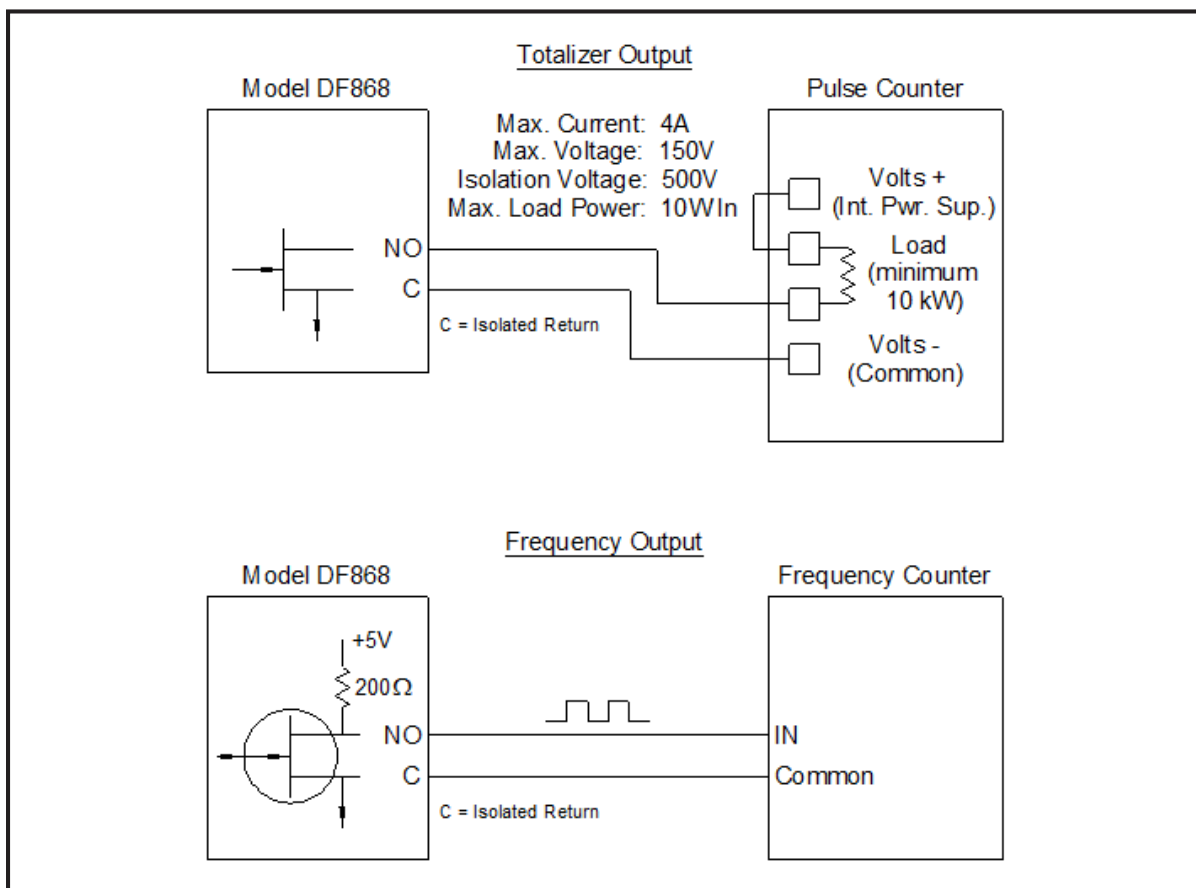
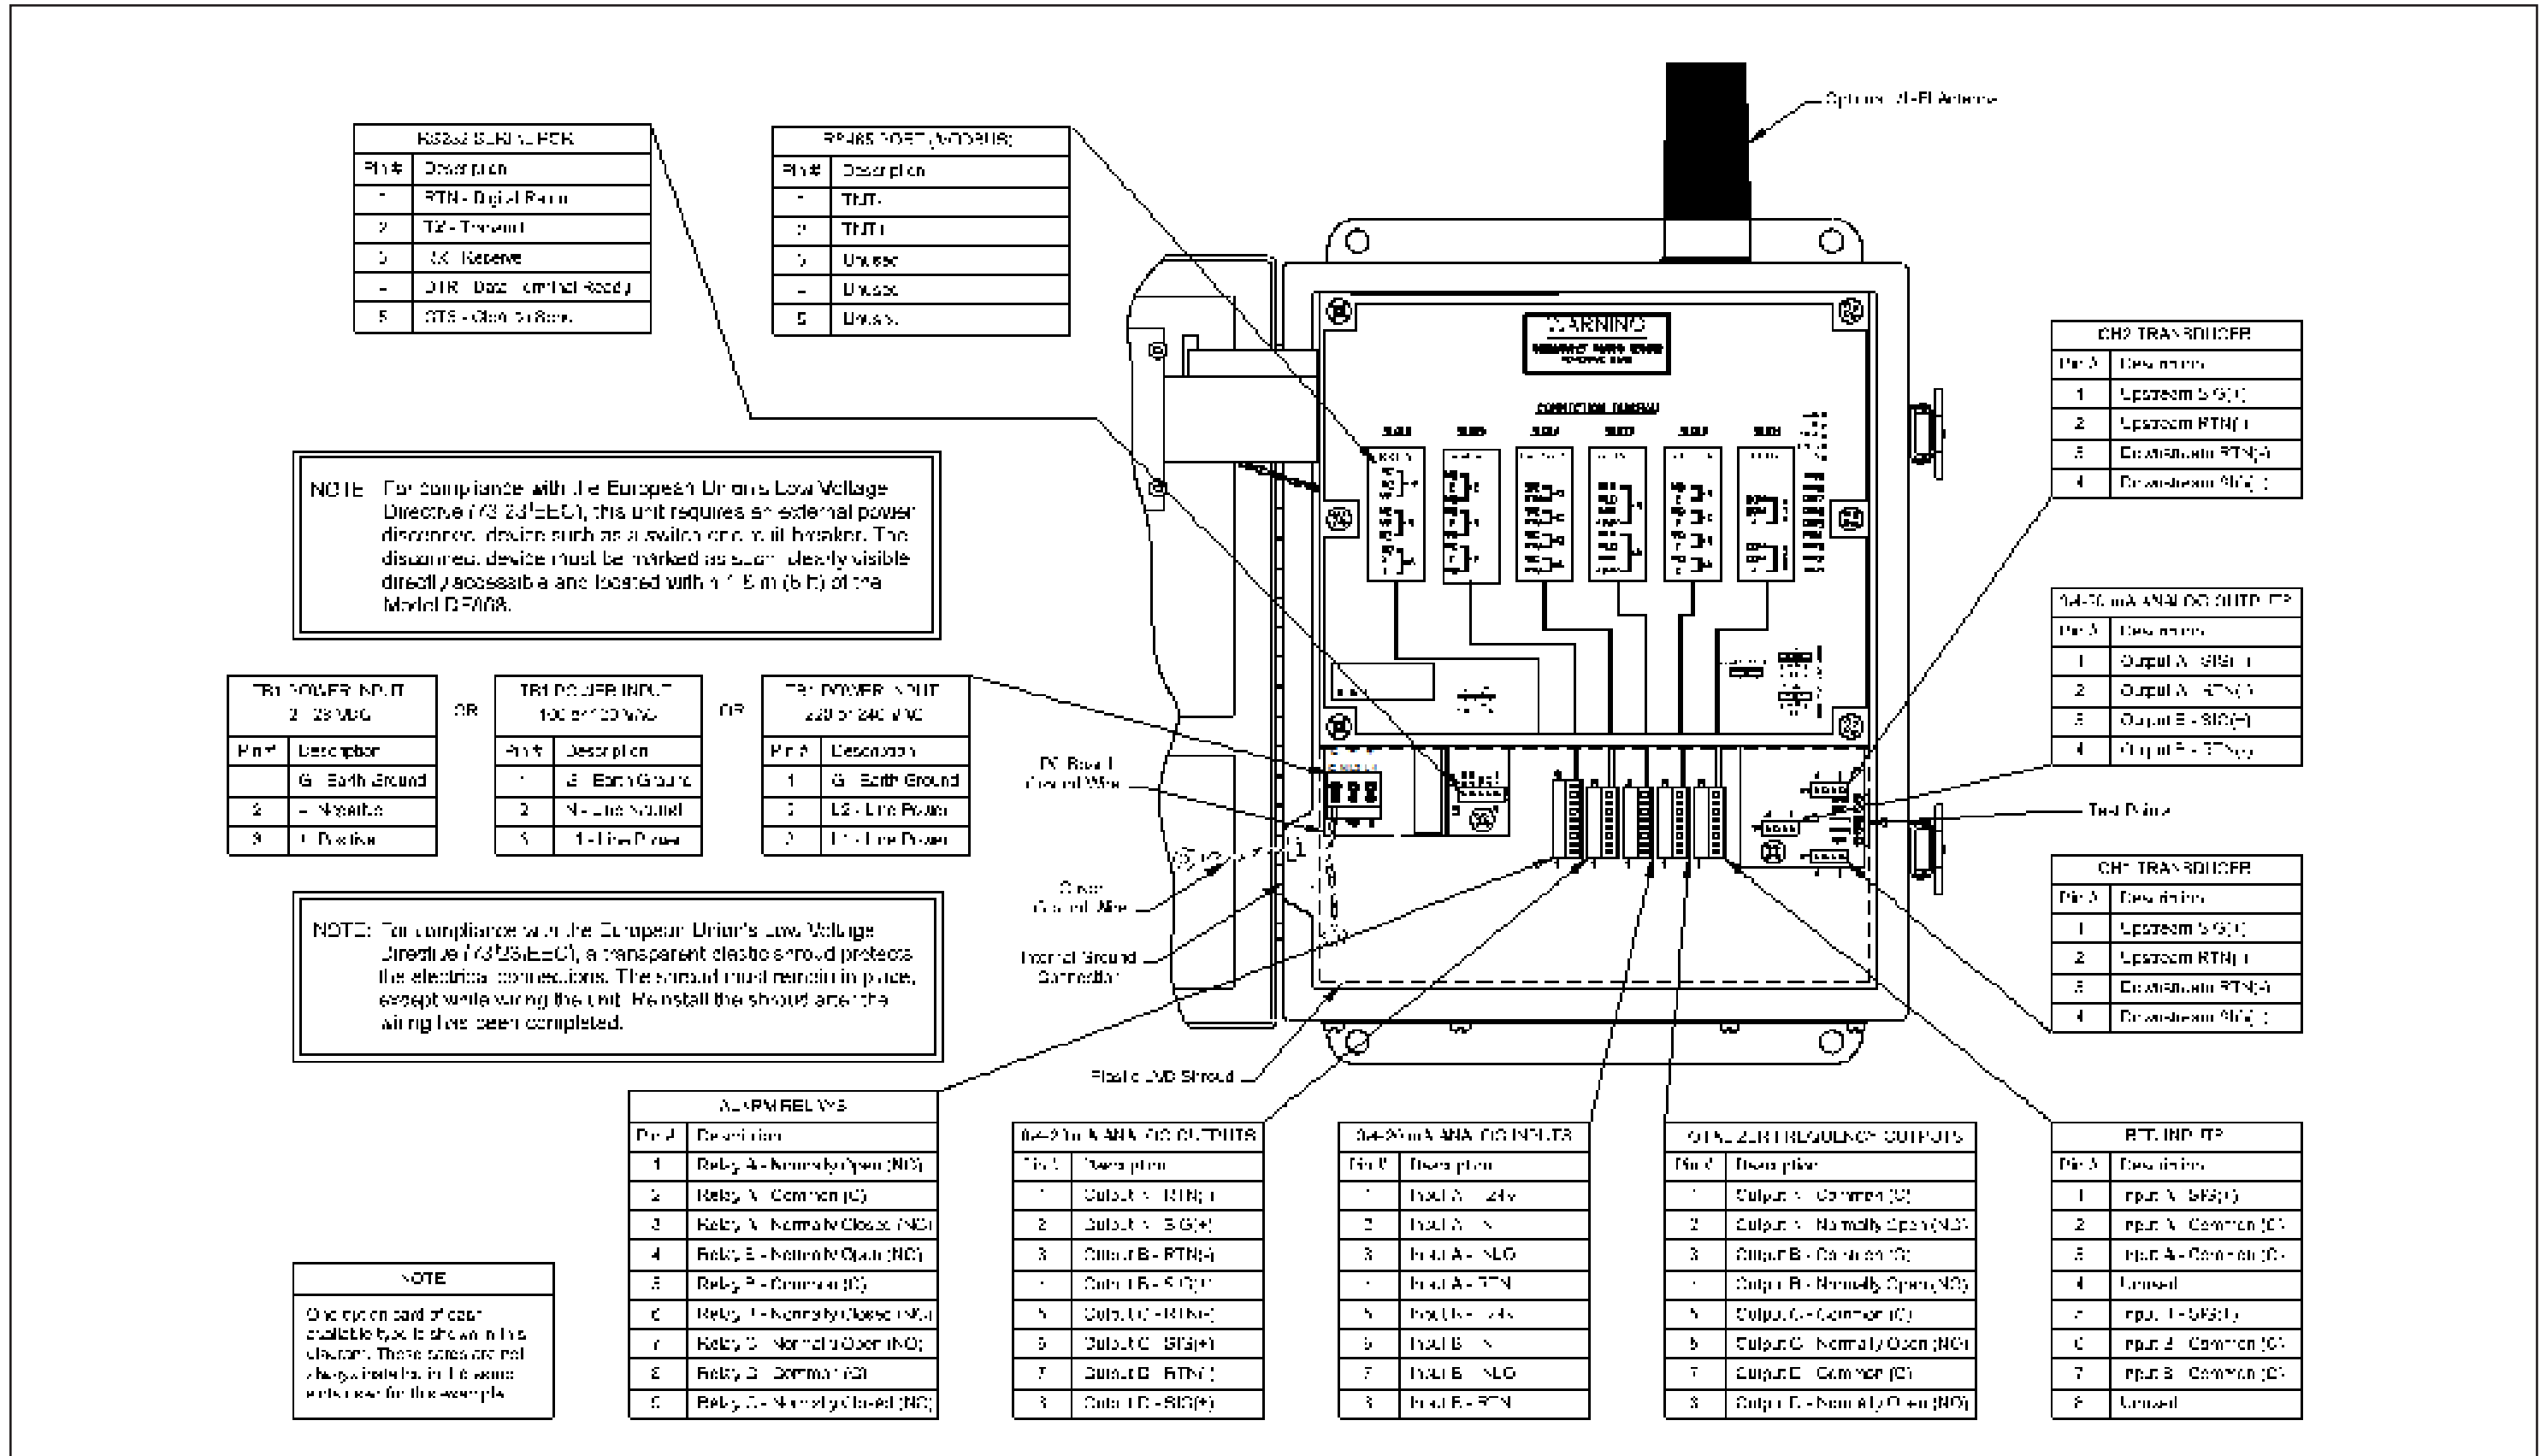

Figure 8: Totalizer/Frequency Outputs Wiring
Figure 10: Model DF868 Electronics Console Wiring (ref. dwg #702-213, sht 1 of 2)
3. Refer to the wiring diagram in Figure 10 on page 16 and connect the transducer cables to the CH1 terminal block. Then, secure the cable clamp.
Refer to Figure 10 on page 16 for the location of terminal block I/O and wire the terminal block as shown.
Use the serial port to connect the Model DF868 flowmeter to a printer, an ANSI terminal or a personal computer. The RS232 interface is wired as Data Terminal Equipment (DTE), and the signals available at terminal block J1 are shown in Table 1. Refer to Figure 10 on page 16 and complete the following steps:
To wire the RS485 serial port, refer to Figure 10 on page 16 and complete the following steps:
Connect the two wires required for each alarm relay in accordance with the pin number assignments shown in Figure 10 on page 16.
Wire the analog input terminal block in accordance with the pin number assignments shown in Figure 10 on page 16.
If the flowmeter system includes additional transmitters, the Model DF868 can accommodate up to three more analog inputs option cards. These option cards are identical to the temperature card described on page 12 and they should be wired in the same manner (see Figure 10 on page 16).
Each totalizer/frequency output requires two wires. Wire this terminal block in accordance with the pin number assignments shown in Figure 10 on page 16. Figure 8 shows sample wiring diagrams of a totalizer output circuit and a frequency output circuit.
Each RTD input requires three wires, which should be fed through one of the conduit holes on the bottom of the electronic console. (For maximum accuracy, the three wires must be of equal length.) Wire this terminal block in accordance with the pin number assignments shown in Figure 10 on page 16.
Connections to these outputs may be made with standard twisted-pair wiring. The total current loop impedance for these circuits must not exceed 1000 ohms. Wire this terminal block in accordance with the pin number assignments shown in Figure 10 on page 16.
The MODBUS option card must be plugged into either slot 5 or slot 6 of the DF868. On the option card, pin 1 is the [TMT-] inverting or negative connection and pin 2 is the [TMT+] non-inverting or positive connection. To link the DF868 to the control system, connect the two wires of the twisted-pair cable from these terminals to the corresponding terminals at the control system, in accordance with the pin number assignments shown in Figure 10 on page 16.